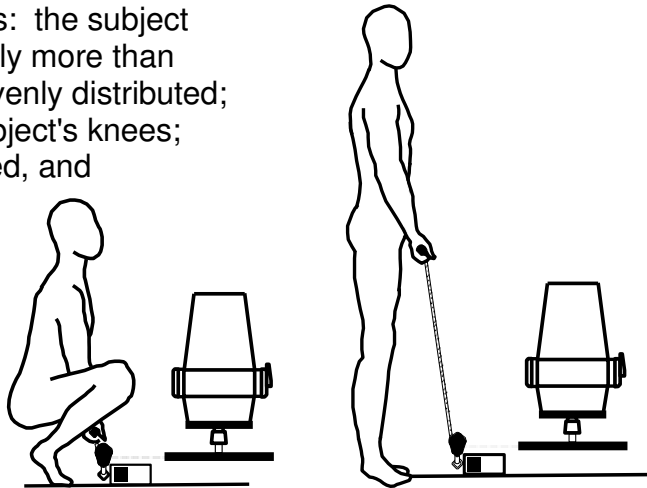

Figure 1
4. Demonstrate to the subject the motion being tested (floor to knuckle height lift), and the proper positioning as described below (Figure 1).